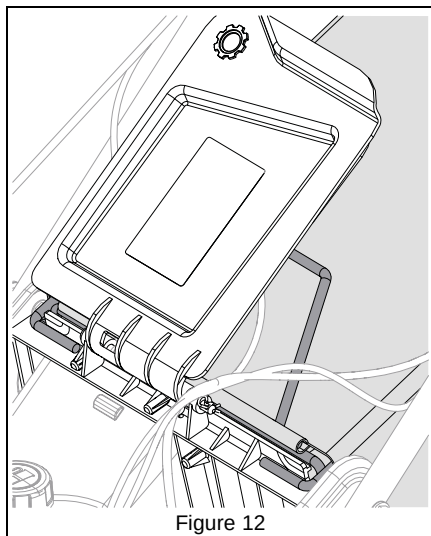

Figure 12
1. Lift rear door slightly and remove bag from bag mount. See Figure 12.
5. Hold rear door open and install grass bag onto bag mount. Release rear door. See Figure 12.